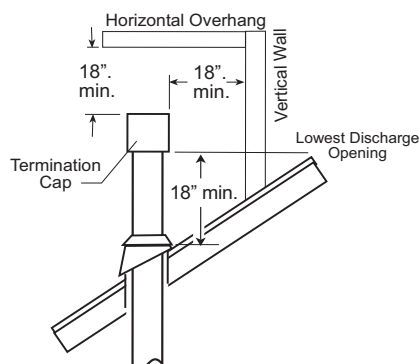

Figure 5.4. Minimum roof penetration height and clearance from adjacent surfaces - vertical termination.
- **GAS VENT HEIGHT:** In no case shall any discharge opening on the cap be less than 18" (457 mm) horizontally from the roof surface. See fig. 5.4.